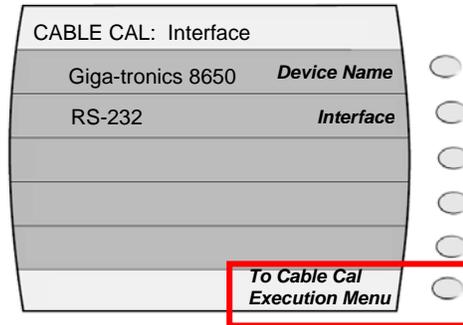

Figure 10
2. Press the “To Cable Cal Execution Menu” softkey. See figure 10.